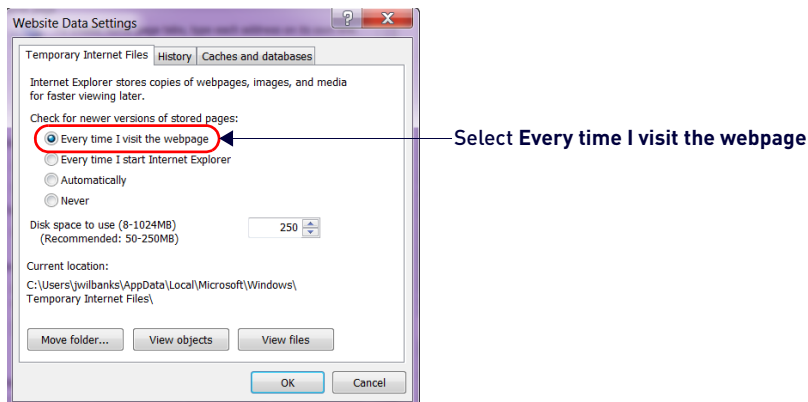

FIG. 128 Website Data Settings dialog
2. On the General tab under Browsing History, click **Settings**. The *Website Data Settings* dialog opens. Under "Check for new versions of stored pages," select "Every time I visit the webpage" (FIG. 128):